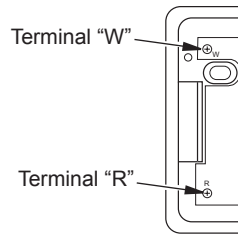

Figure 32 - Thermostat Base Terminals "W" and "R"
6. Connect one bare wire end to each terminal ("W" and "R") of the thermostat base (see Figure 32).